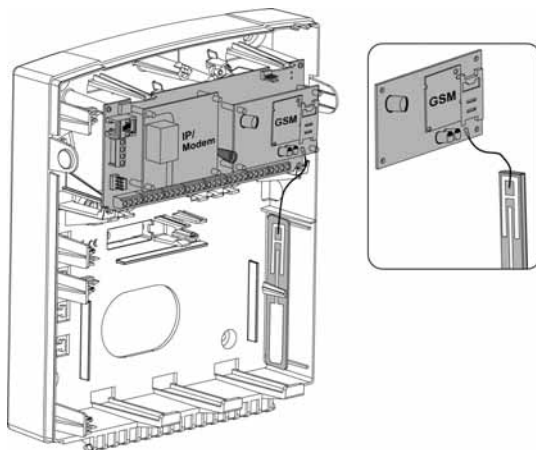

Figure 2-10 Placing the GSM/GPRS panel and antenna
1. Place the optional GSM/GPRS communication board (mounted on its cylindrical placement struts). See Figure 2-10.
3. Attach the antenna plate and slide it into its right-wall housing. (See Figure 2-10)